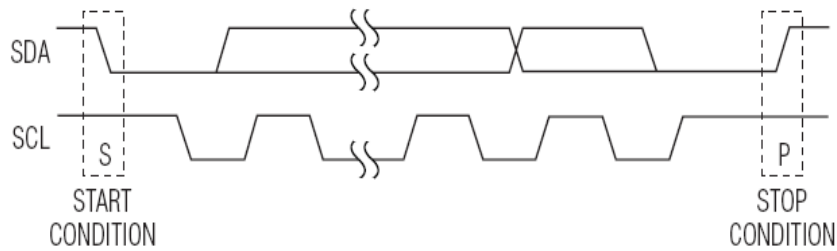

Figure 2. START and STOP Conditions
SDA operates as both an input and an open-drain output. A pull up resistor, typically 4.7k Ω , is required on SDA. SCL operates only as an input. A pull up resistor, typically 4.7k Ω , is required on SCL if there are multiple masters on the 2-wire interface, or if the master in a single-master system has an open-drain SCL output. Each transmission consists of a START condition sent by a master, followed by the SN7325's 7-bit slave addresses plus R/W bits, 1 or more data bytes, and finally a STOP condition (see Figure 2).
Both SCL and SDA remain high when the interface is not busy. A master signals the beginning of a transmission with a START (S) condition by transitioning SDA from high to low while SCL is high. When the master has finished communicating with the slave, the master issues a STOP (P) condition by transitioning SDA from low to high while SCL is high. The bus is then free for another transmission (see Figure 2)